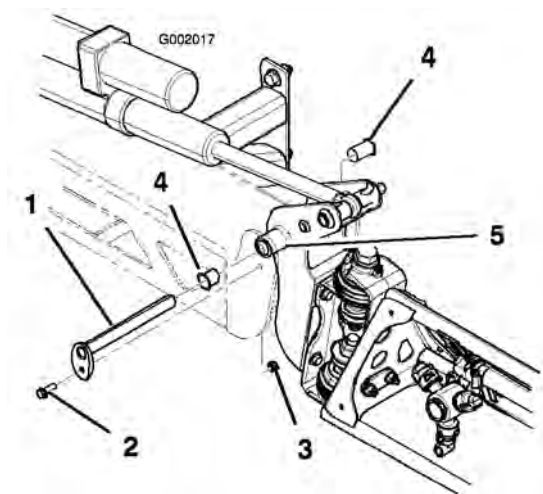

Figure 61
3. With the weight of the boom supported, remove the bolt and nut securing the pivot pin to the boom assembly (Figure 61). Remove the pivot pin.
5. Remove and inspect the nylon bushings from the front and back sides of the pivot bracket (Figure 61). Replace any damaged bushings.
7. Install the boom and pivot bracket assembly into the center frame, aligning the openings (Figure 61).